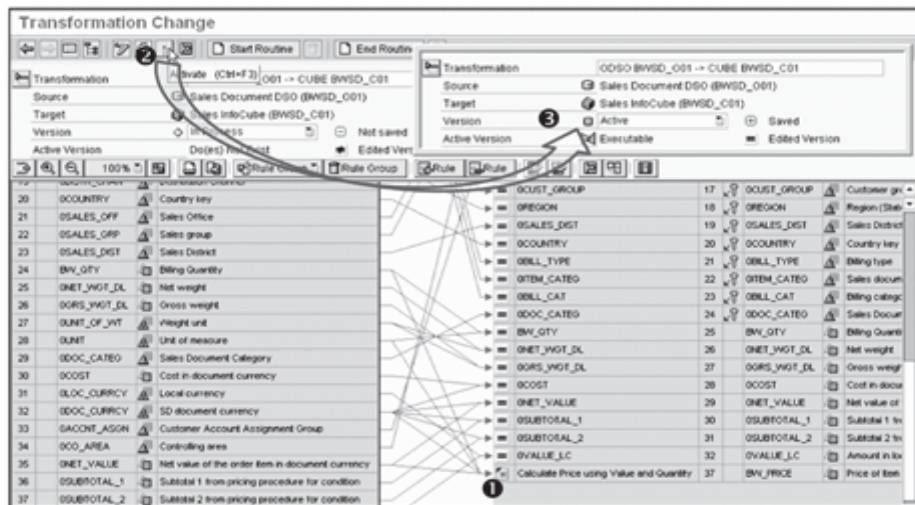

Figure 7.76 Activating the Transformation
Return to the Rule Details box using the Back icon, and click on Transfer Values to return to the main transformation screen (Figure 7.76). The ABAP routine transformation type is attached to BW_PRICE, as shown in ❶ of Figure 7.76, and indicated by [icon]. Activate the transformation by clicking the Activate icon (❷). Upon successful activation, the version is displayed as Active (❸).